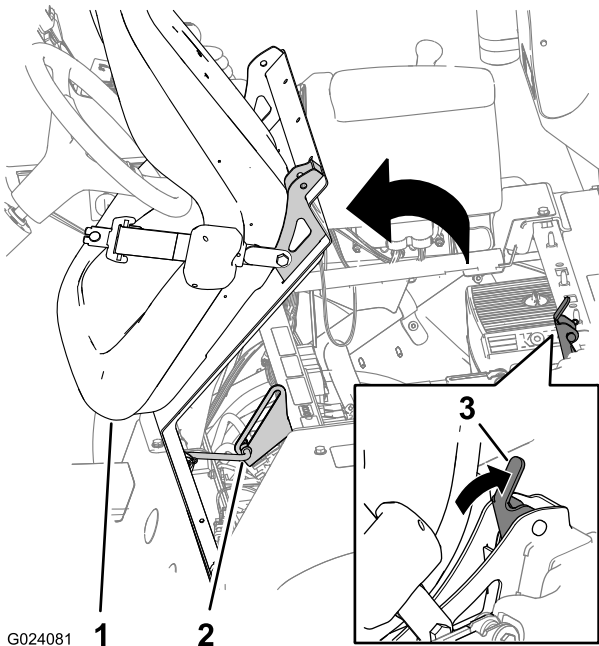

Figure 2
2. Unlatch the seat by pushing the seat-latch handle rearward (Figure 2).
3. Rotate the seat and seat plate forward until the end of the prop rod at the prop-rod bracket is at the bottom of the groove of the bracket (Figure 2).